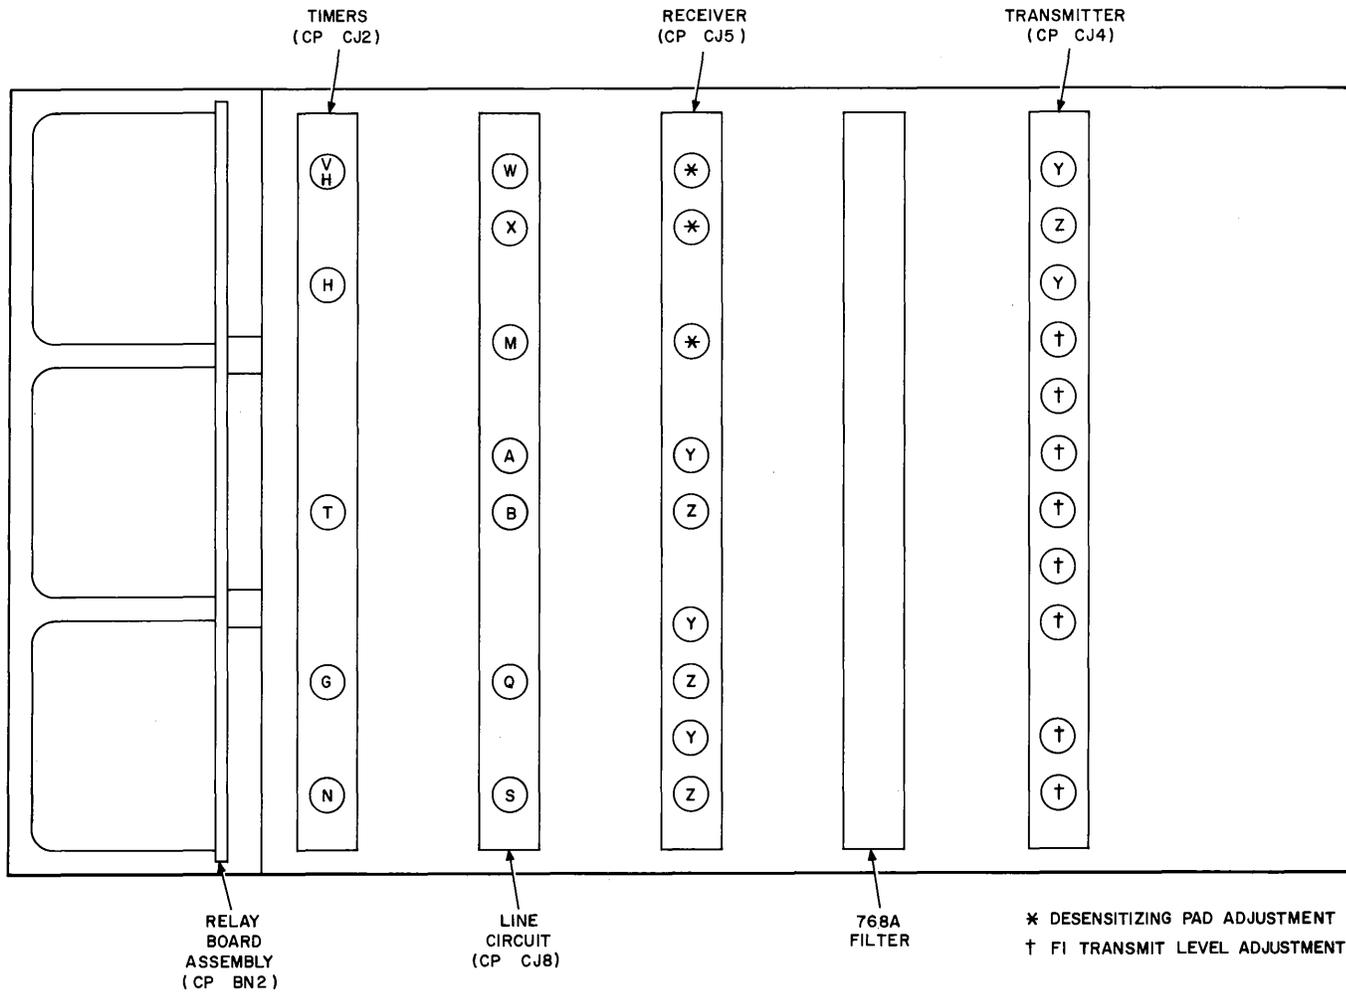

Fig. 21—Data Set 103E2—Circuit Pack Locations and Option Screw Settings
5.06 Install options on the circuit packs of each *Data Set 103E2* as shown in Table E. Reference to Fig. 21 may be helpful to locate the option screws to be *tightened* for each option. The remaining option screws on Data Set 103E2 are for adjusting the transmit level and desensitizing pad of the data set and are shown in Table F.